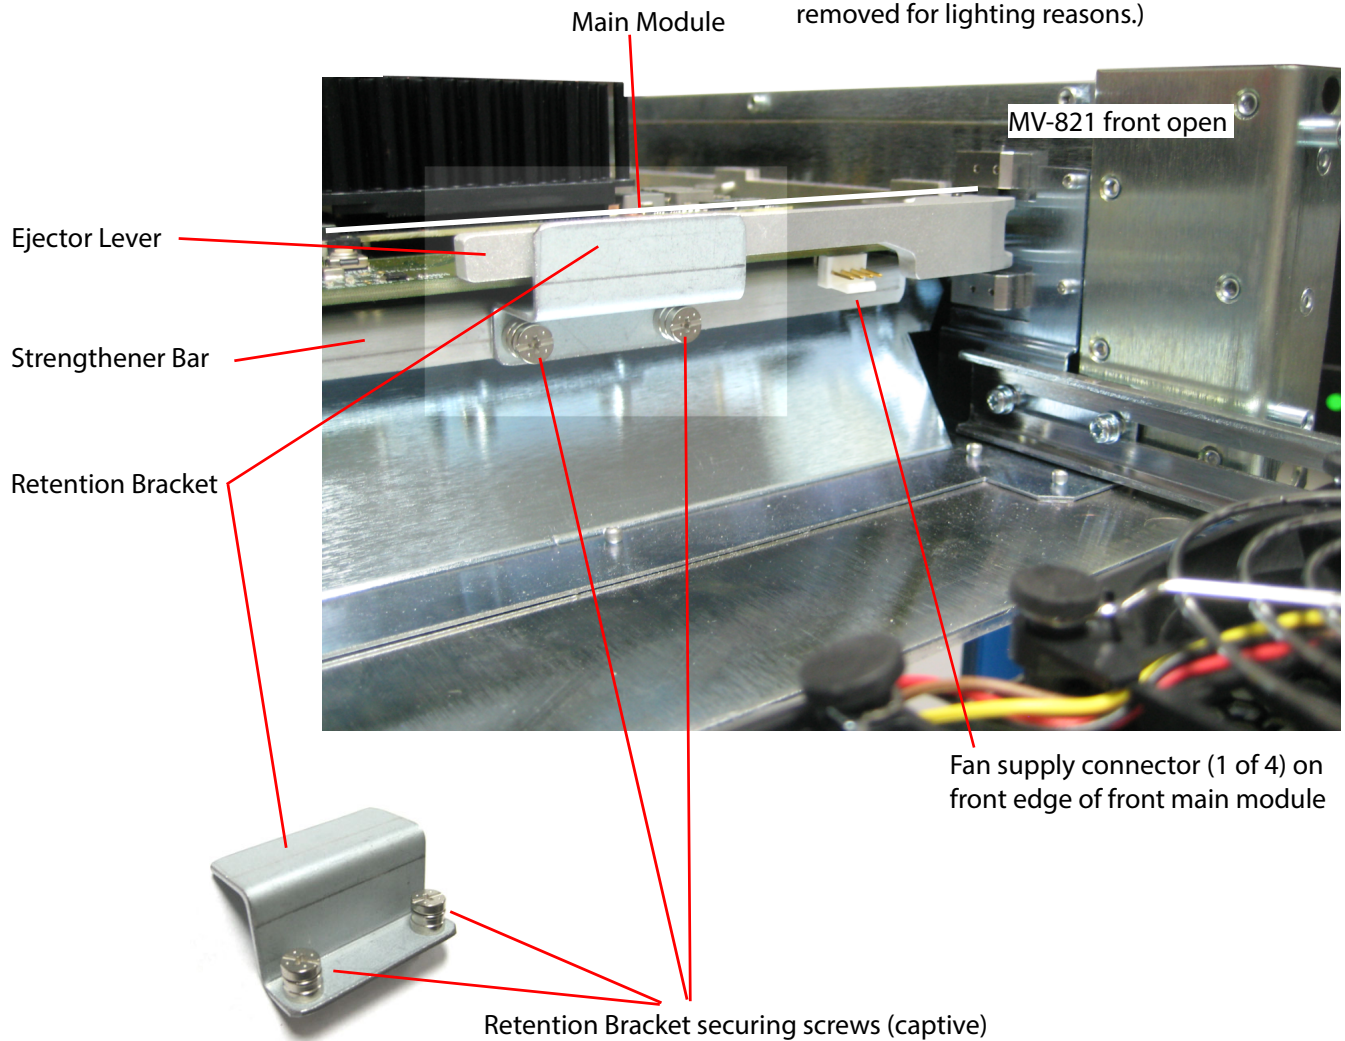
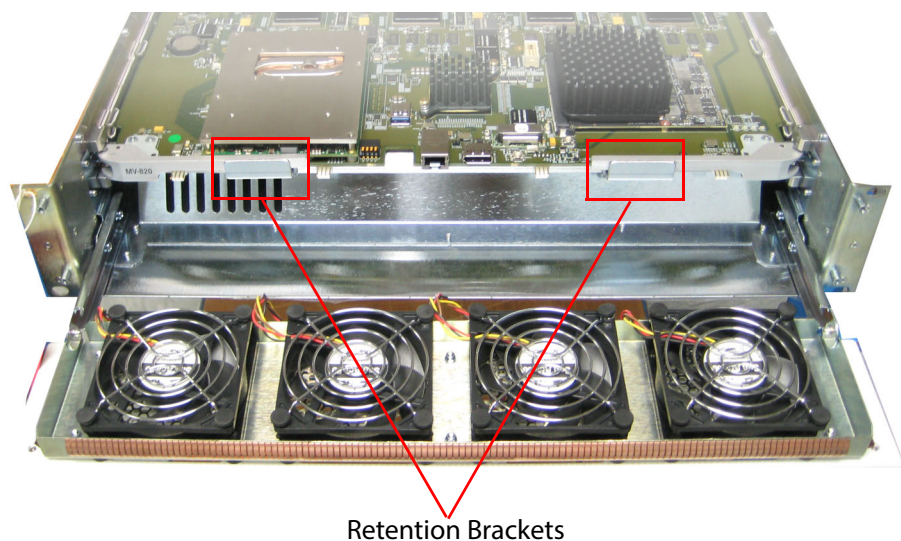

Fig. 6-7: Main Module Retention Bracket and Strengtheners Bar
Fig. 6-9: Retention Bracket Locations
The Main Module is retained in the chassis with two Retention Brackets, each attached to the module's lower Strengtheners Bar with two captive screws. See Figure 6-7.
- 4 Unscrew the two captive screws securing one of the Retention Brackets. Remove the Retention Bracket and keep it aside. See Figure 6-7 and Figure 6-9.
See Figure 6-7 and Figure 6-9.